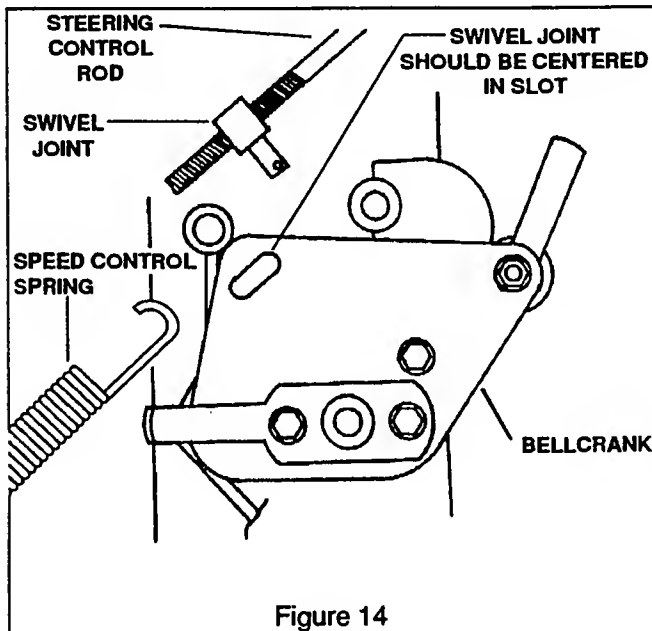

Figure 14
3. Turn the swivel joint on the steering control rod until the swivel joint lines up in the center of the slot in the bellcrank. This will allow the control rod to be moved back when shifting out of neutral and not move the bellcrank. (See figure 14)